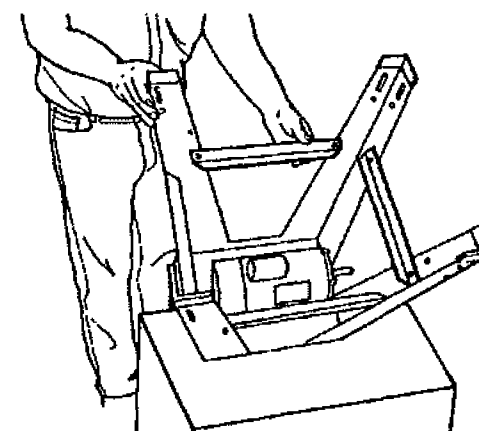

Fig. 18
24. Stand the Pro Planer upright, as shown in Fig. 18.